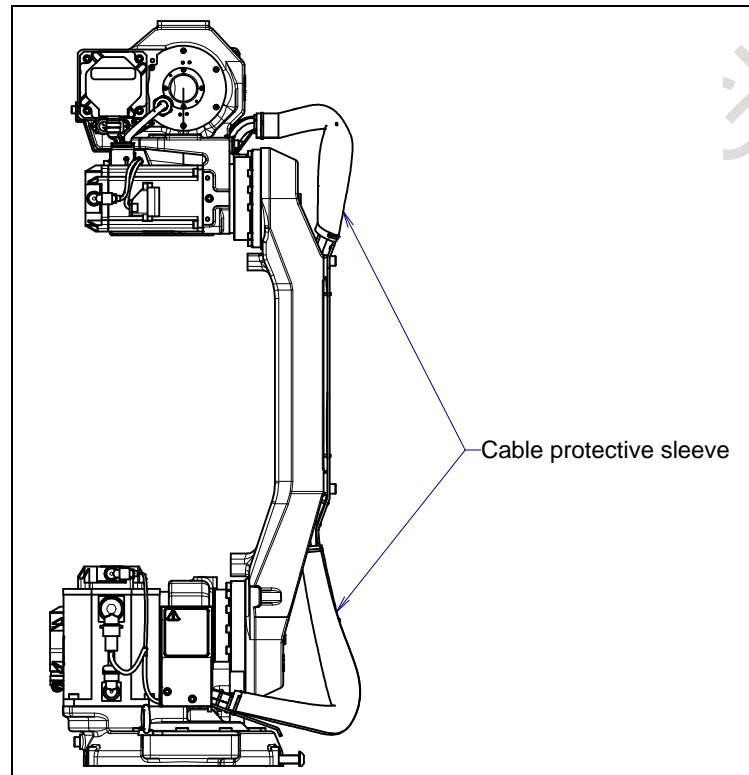

Fig. 8.4 (a) Replacing cable kit (J2/J3-axis cable protective sleeve)
- 4 Cut the cable tie for the $J2$ -/ $J3$ -axis cable protective sleeve, and remove the cable protective sleeve from the cable kit. (Refer to Fig. 8.4 (a)).
- 5 Remove the pipe mounting seal bolt of $J3$ casing back side, then pull out the pipe. (Refer to Fig. 8.4 (b).)